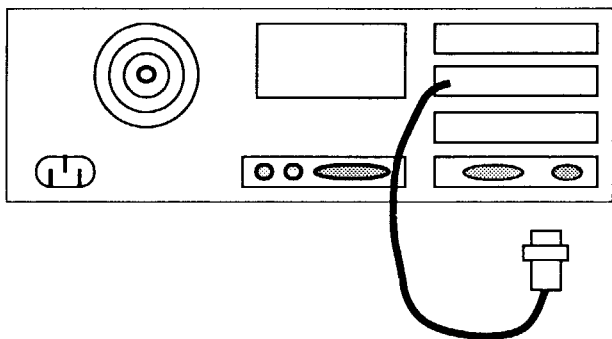

Figure 3
2. Feed the *molex connector* of the video adaptor cable through the opening of the middle expansion slot in the rear of the computer. See Figure 3.